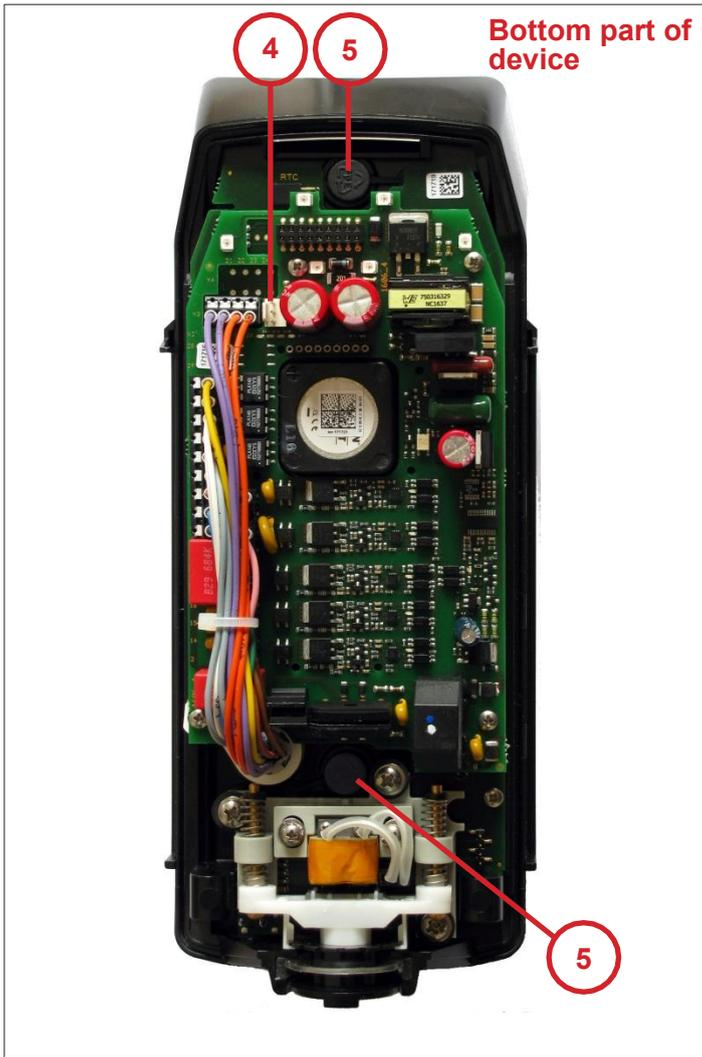

Fig. 15
- Before installing the top part of the device (3), you need to install the relief symbol inserts (accessories kit) based on the circumstances of the crossing (see Section 6.3).
- Reconnect the supply line for the top part of the device (Fig. 15, 4).
- After inserting the relief symbols, push the top part of the device (3) onto the bottom part (10).
- Tighten the SW4 hexagon socket locking screws (2).